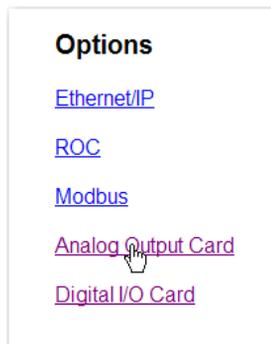

FIG. 258 OPTIONS PAGE/SELECTING ANALOG OUTPUT CARD
Step 2. Click on Options. The Options Page appears. (See Fig. 258)